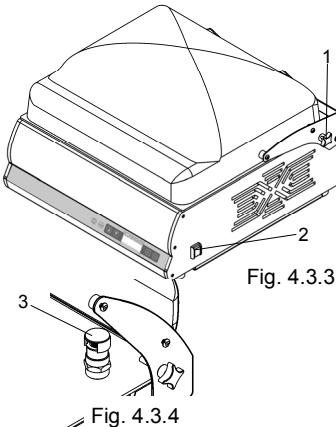

Fig. 4.3.4
- Remove the suction cap (ref. 3 fig. 4.3.4).